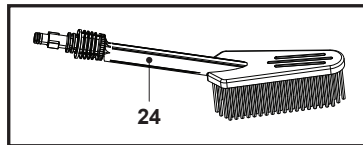

Fig. 15
The wash brush (24) can easily remove dirt, grease, and stubborn debris, leaving your surfaces spotless and looking as good as new, and can easily reach hard to reach areas (Fig. 15).